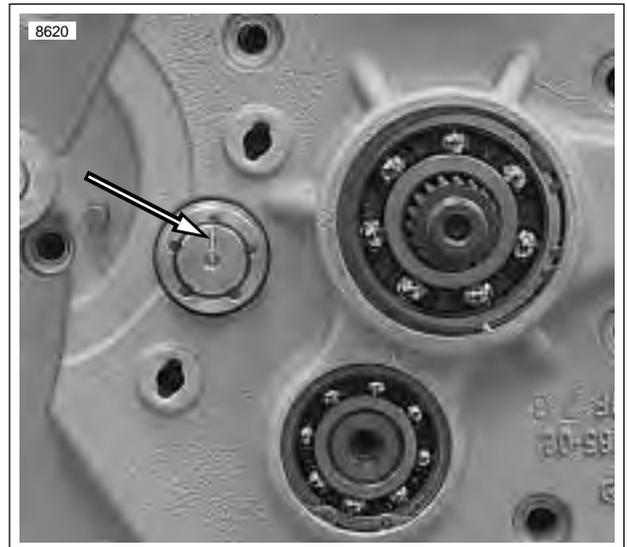

Figure 6-51. Scribed Line on Shifter Drum at 12 o'clock (Transmission in Neutral)
14. See Figure 6-51. Scribe a line on the end of the shifter drum at the 12 o'clock position for later reference.